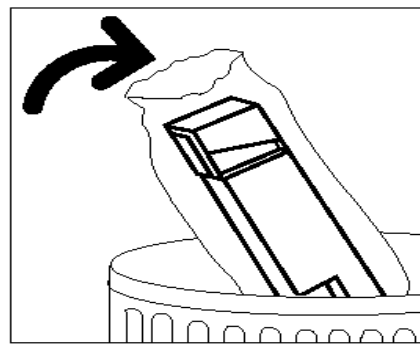

Figure 17: Disposing of the old Dry Ink Waste Container
- 5** Place the Dry Ink Waste Container in a plastic bag, as illustrated in Figure 17, and dispose of the used container according to local regulations.